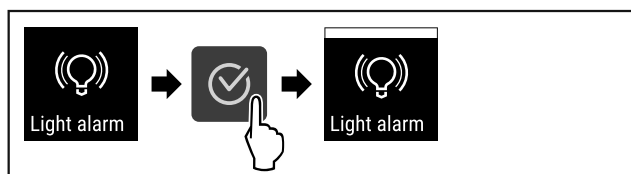

Fig. 119
- ▶ Carry out steps (see Fig. 119) .